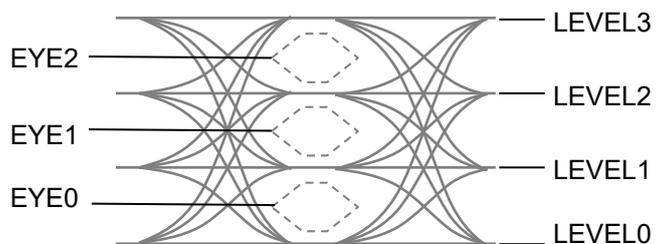

Figure 3.9.7-1 Positions of EYEs and LEVELS
*1: For the positions of LEVEL0 to LEVEL3, and EYE0 to EYE2, refer to Figure 3.9.7-1.